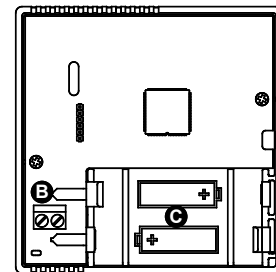
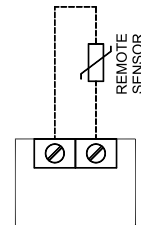

Fig. 6
Fig. 7
**4** - Insert the batteries (respecting the correct polarity) in the battery compartment (C in Fig. 6); use only alkaline, brand new batteries.
- Connect the remote sensor (if present) using the 'REMOTE SENSOR' connector (B in Fig. 6), according to the wiring diagram shown in Fig. 7; then remember to set properly the parameter P09. Read the section 'INSTALLER CONFIGURATION'.